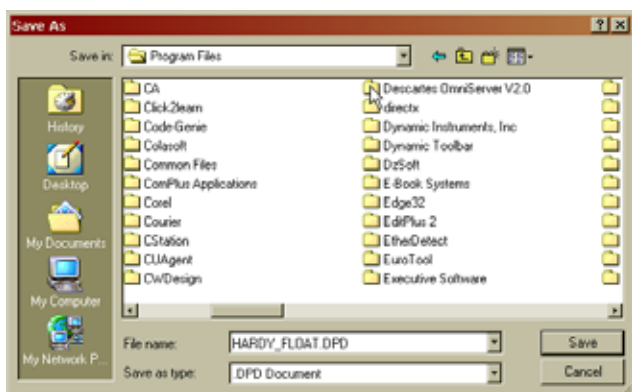

FIG. 220: PROGRAM FILES/SELECTING DESCARTES OMNISERVER
Step 11. Double click on "Program Files". The Program Files folder list appears. (See Fig. 220)